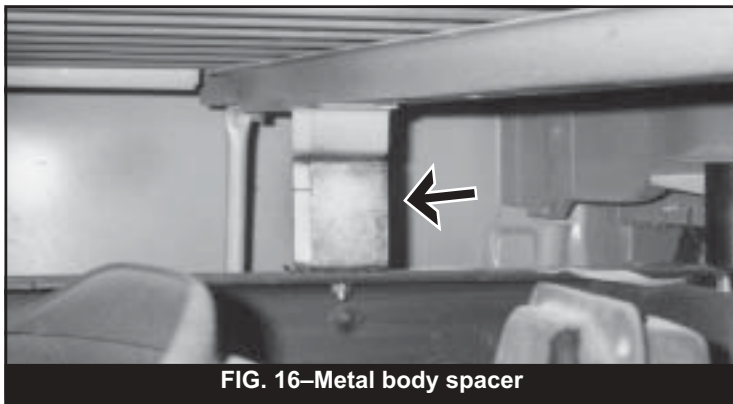

FIG. 16—Metal body spacer
85. Place the metal body spacers under the cross supports of the bed (Fig. 16). There are four on long beds and two on short beds. Attach the blocks with 5/16" x 1" bolts, nuts, and 5/16" SAE washers.